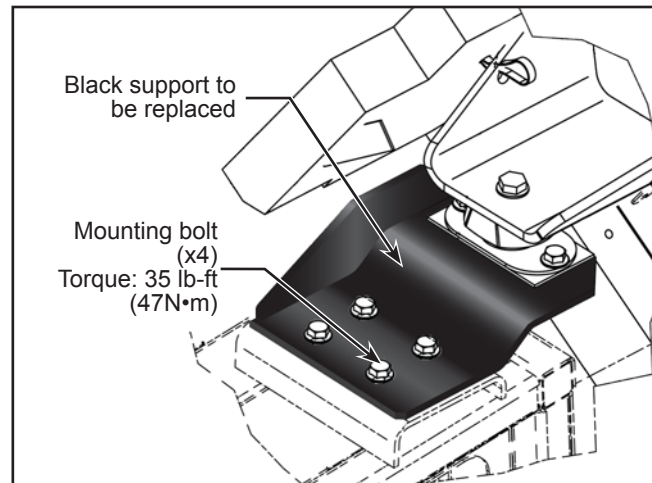

Figure 3 - Upper Black Support (Left Side Shown/ Right Side Similar)
- 1.14. Replace the front supports with new upper supports N66783 (left support) and N66782 (right support) using the retained mounting bolts. Apply Loctite 242 thread locker or the equivalent to the bolts. See Figure 3.